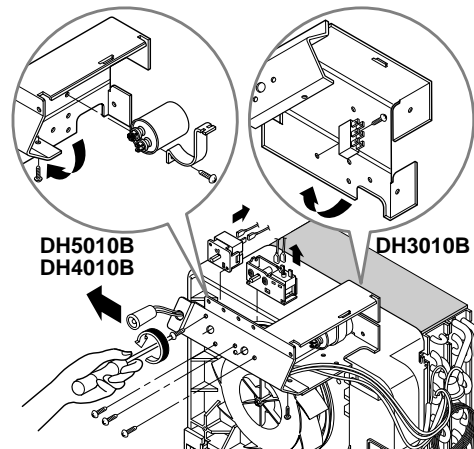

Figure 9
1. Unfasten screws located in the bottom side of control box (see Figure 9) and fasten capacitor clamp. (DH5010B/DH4010B) And then unfold two sides of control box. (See Figure 9)
1. Remove each screw that fastens capacitor after control box is stretched upper wand.(See Fig. 9)